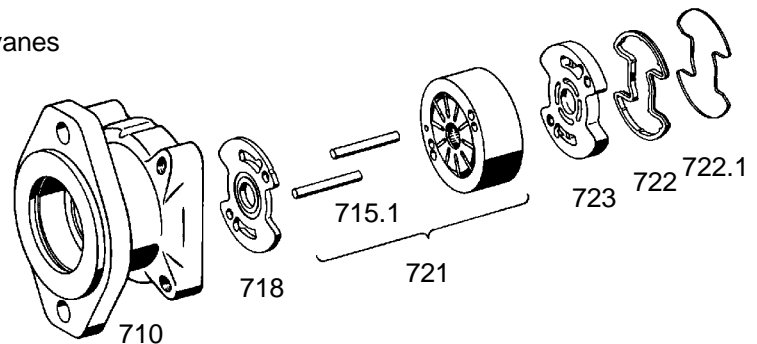

Fig. 10
Remove the complete rotor set (721) together with needle rollers (715.1) (Fig. 10).